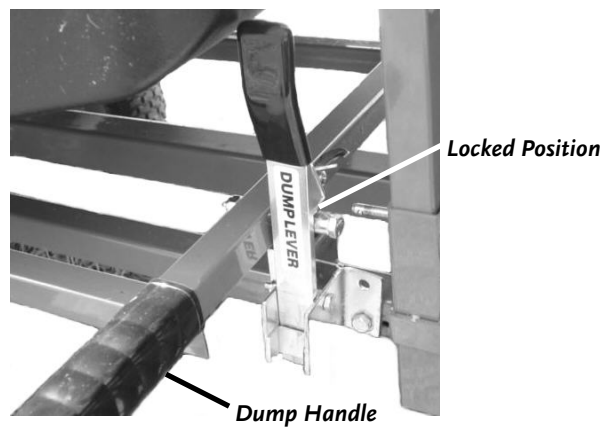
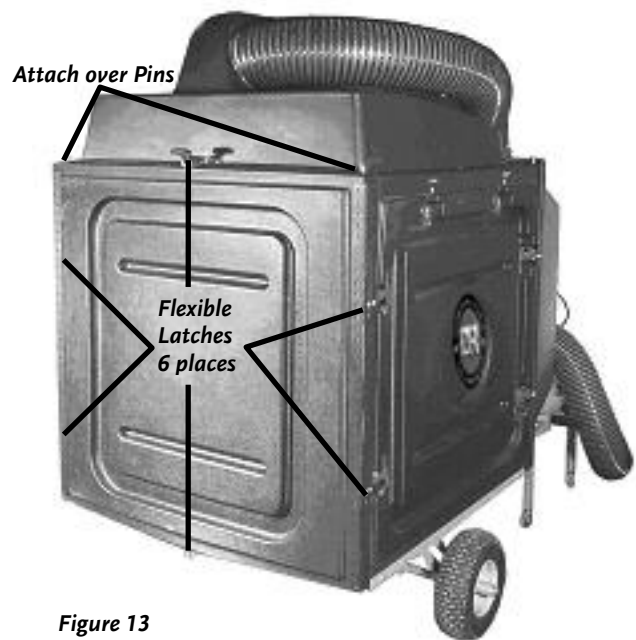

Figure 8
Figure 13
5. Lower the Tilt Bed, using the Dump Handle, to the down position and make sure that the Dump Lever locks into place before proceeding with the Collector Box installation (**Figure 8**). The Dump Lever is spring loaded so it will click into the Locked Position when the Tilt Bed is all the way down.
6. Lower the bed until it is locked in place with the Dump Lever (**Figure 8** on page 15). Attach the rear panel on the protruding pins and secure in place with the six (6) flexible latches (**Figure 13**).